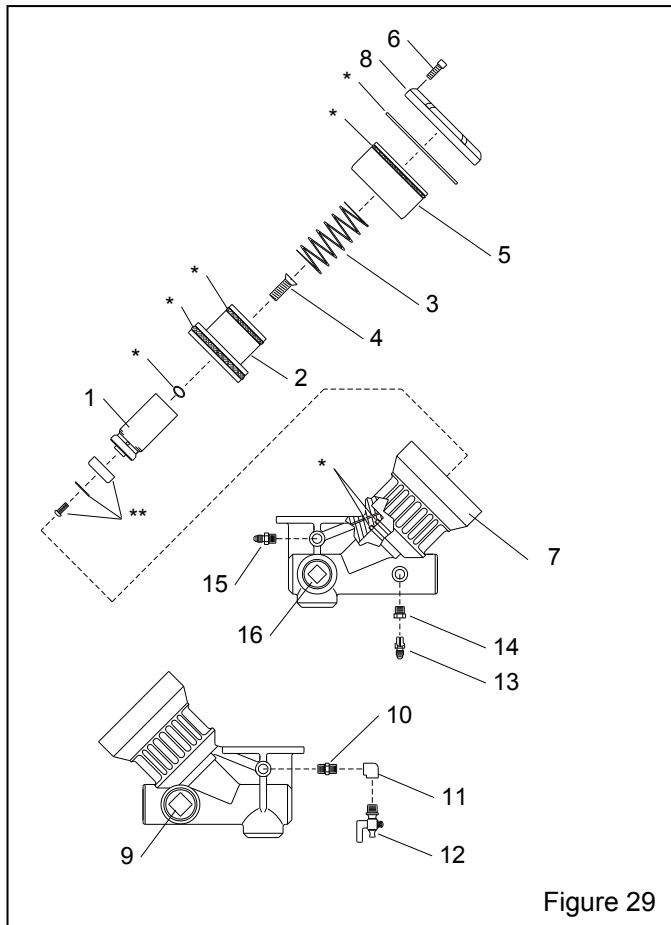

Figure 29
8.8 Millennium Valve, Inlet Segment, Figure 29